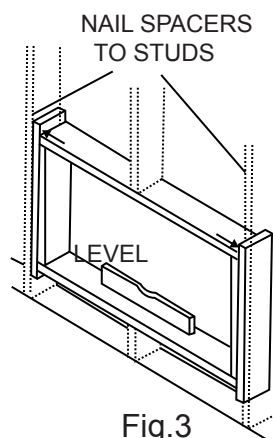

Fig.3
2. Secure cabinet in place using masonry nails, or the right masonry anchor screws. (Another way to secure cabinet is to build a frame in the masonry wall such as the one shown in Fig. 3 of Step 2 Prepare Wall. Securely anchor frame to masonry wall. This way gives very good louver clearance on either side of cabinet.)